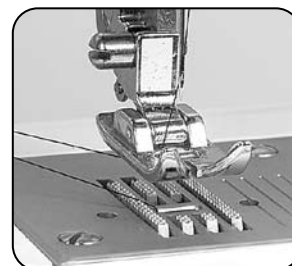

Fig. 13
4. Pull about six inches of both the upper and lower threads toward the back of the machine, placing them under the presser foot [Fig. 13].